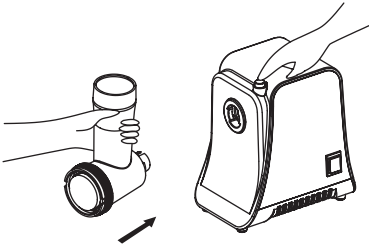
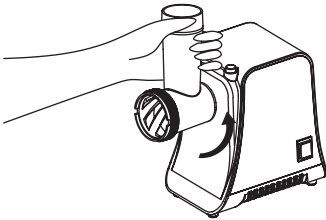

Figure 1.
Figure 2.
1. Press the lock button, hold the grinding head and insert it into the head inlet (when inserting, pay attention to the head inlet, the grinding head must be slanted as per arrow indicated on the top, see fig. 1), then move the grinding head counterclockwise to fasten the grinding head to the head inlet. The grinding head should be locked when it is properly fastened into the head inlet (fig. 2).